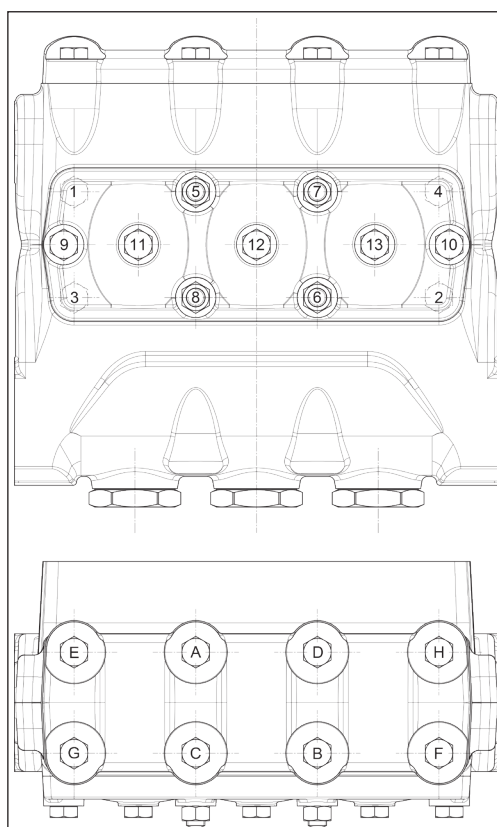

Fig. 137
** The head and cover fixing screws and nuts must be tightened with a torque wrench, lubricating the threaded shank, respecting the order shown in the diagram in Fig. 137.